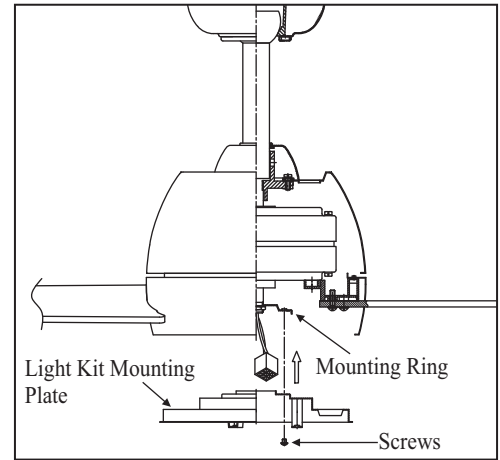

Figure 16
2. Place the key holes on the light kit mounting plate over the 2 screws previously loosened from the mounting ring, turn the light kit mounting plate until it locks in place at the narrow section of the key holes. Secure by tightening the 2 screws previously loosened and the one previously removed (Fig. 16).